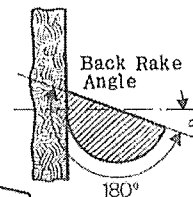

Fig. 3a
8. When grinding the back rake angle, use the fine adjustment screw F over the entire range of rotation of the collet bearing (see Fig. 3a). Production of the back rake angle is positively controlled. The angle is required to extend over the entire length of the cutting lip.